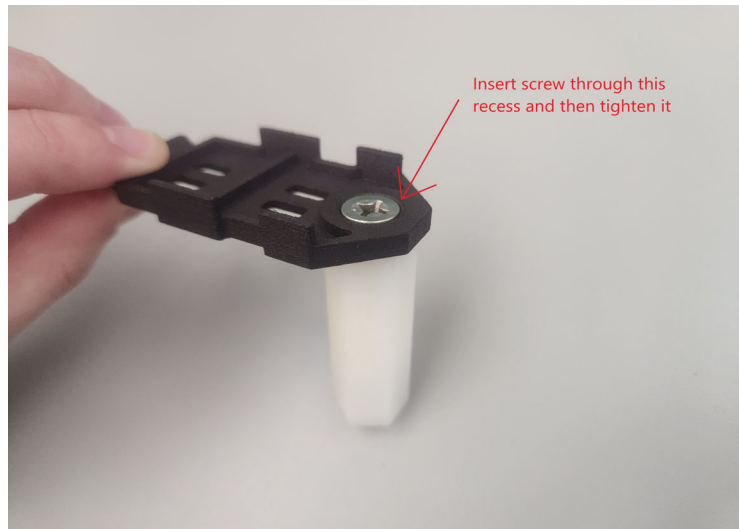

Figure 23 Image of the hex standoff attachment
- b** Insert the machine screw through the top face of the body (see **Figure 22**) and tighten it into the standoff until secure (see **Figure 23**).